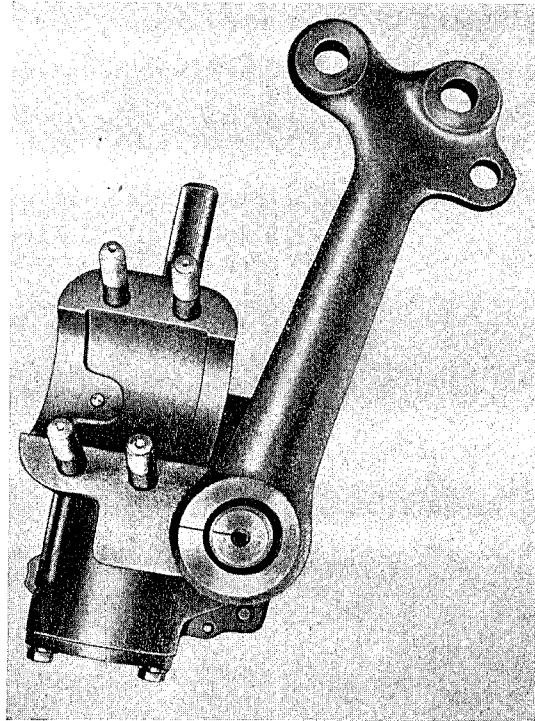

Fig. 84
9. Make sure that the marks on the drop arm and the rocker shaft coincide (see fig. 84).